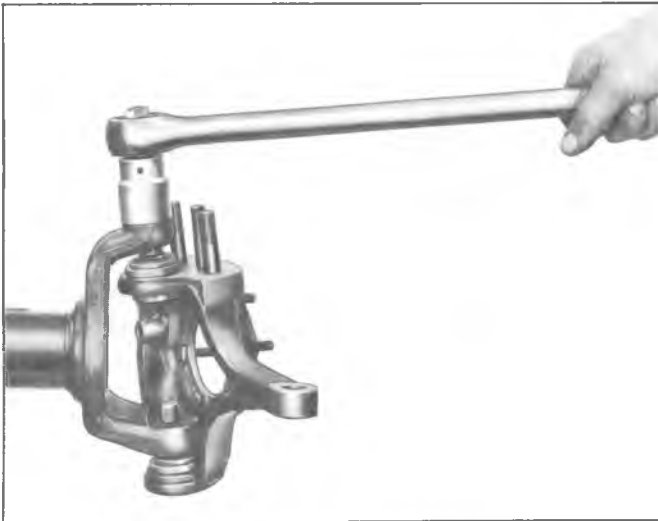

Fig. 31—Removing Ball Socket Retaining Nut
12. Remove the retaining nuts from the upper and lower ball sockets as shown in Figure 31.